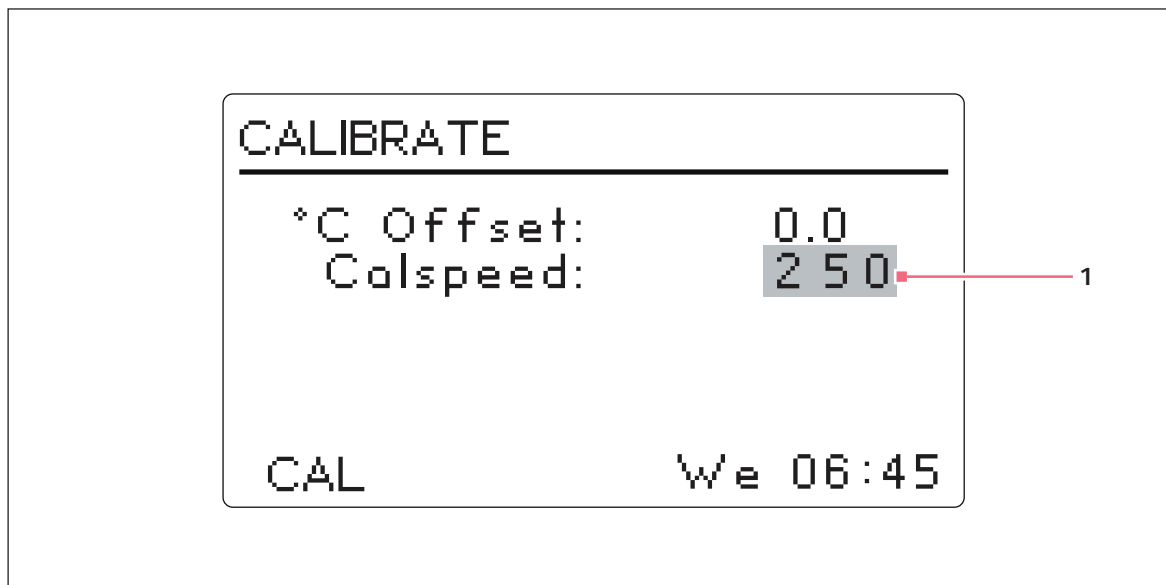

Fig. 5-16: Calibrate Screen
1. Use the Control Knob to enter the **CAL** screen (see Fig. 5-16 on p. 58).
The Calspeed function, which is set in the **CAL** screen (see Fig. 5-16 on p. 58), is used to calibrate the speed of the shaking mechanism. Calibrated at the factory, speed does not need to be recalibrated until a major operating component (e.g., drive belt) is changed.